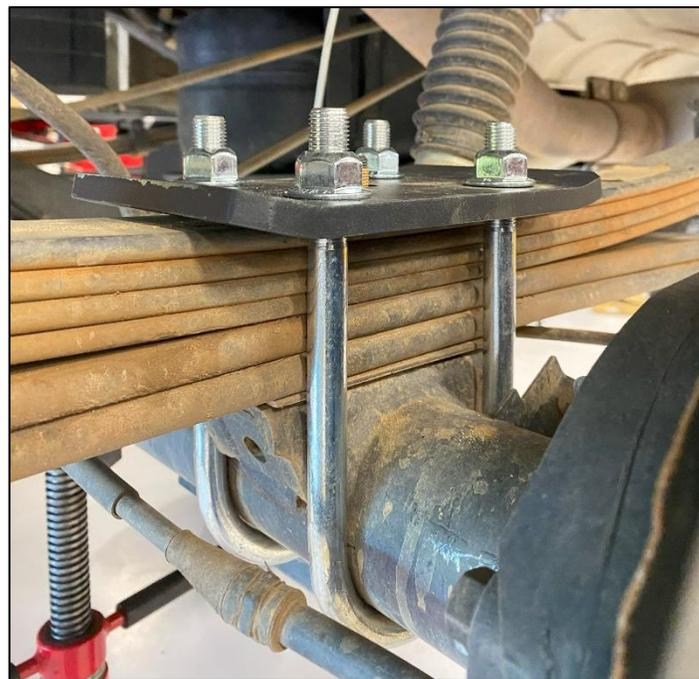

Figure 5
9. Evenly tighten the M14 Nuts down to not bend the U-Bolts. Torque to **54 ft-lbs.** *Figure 5.*